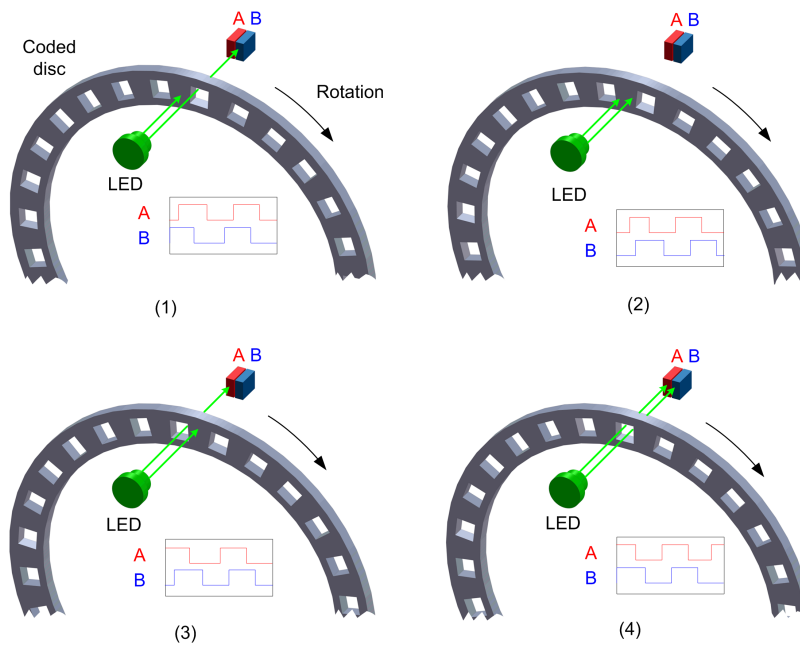

Figure 1.4: Output of an incremental encoder showing signals A and B when rotating in a clockwise manner.
An incremental optical encoder typically consists of a coded disk, an LED, and two photo sensors. The disk is coded with an alternating light and dark radial pattern causing it to act as a shutter. As shown schematically in Figure 1.4, the light emitted by the LED is interrupted by the coding as the disk rotates around its axis. The two photo sensors (A and B) positioned behind the coded disk sense the light emitted by the LED. The process results in A and B signals, or pulses, in four distinct states: (1) A off, B on; (2) A off, B off; (3) A on, B off; (4) A on, B on. Encoders which output A and B signals are often referred to as quadrature encoders since the signals are separated in phase by 90° . The resolution of an encoder corresponds to the number of light or dark patterns on the disk and is given in terms of pulses per revolution, or PPR.